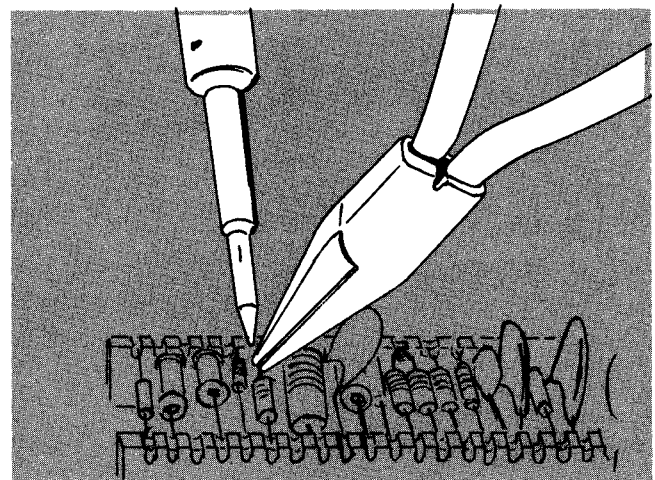
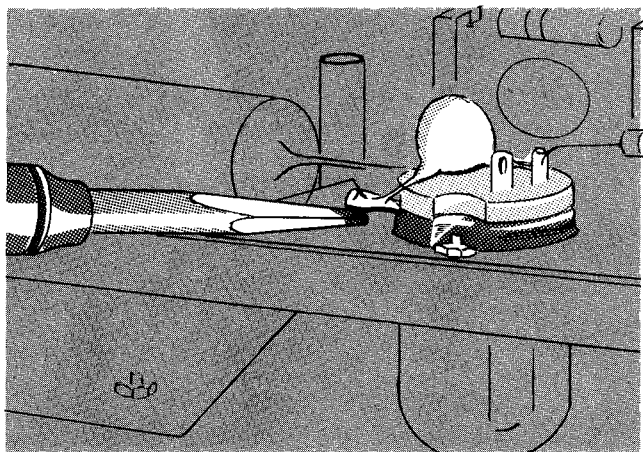

Fig. 5-2. Correct method of applying heat when unsoldering or soldering a lead in a ceramic strip.
Fig. 5-4. Soldering to a metal terminal. Note the slight fillet of solder formed around the wire.
3. Apply one corner of the soldering iron tip to the notch where you intend to unsolder the lead (see Fig. 5-2).
In soldering leads to metal terminals (examples: interconnecting plug, pins on a tube or transistor socket) a similar technique should be employed. Use a soldering iron tip having a shank diameter of $\frac{1}{8}$ " so that it will go through small spaces between wiring. Prepare the soldering iron as outlined previously and apply the iron to the part to be soldered as shown in Fig. 5-2. Allow the joint to heat sufficiently to permit the solder to flow freely and to form a smooth, slight fillet around the wire as shown in Fig. 5-4.